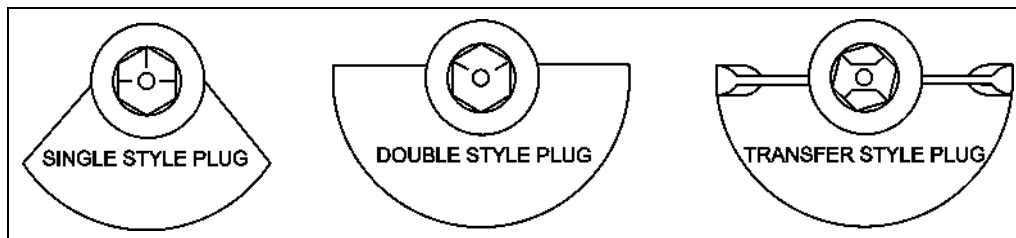

Figure 2—Plug Stem Markings
6. Note the orientation of the plug in relationship to the valve ports. (See Figure 2 for markings.)